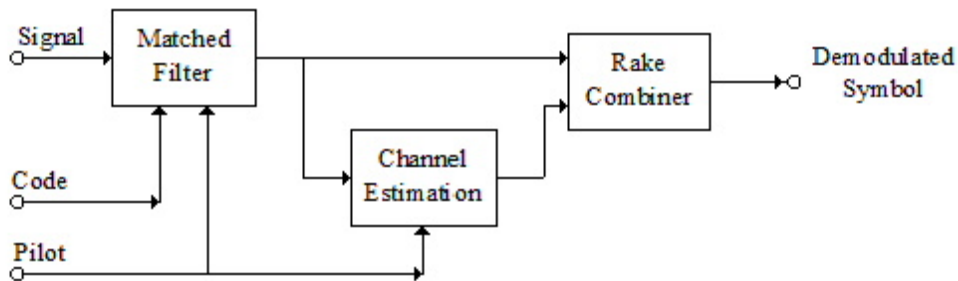

Fig. 1 Block diagram of Rake receiver
- In order to understand this model better, a block diagram of Rake receiver used in time-multiplexed pilot channel is given, as shown in Fig. 1